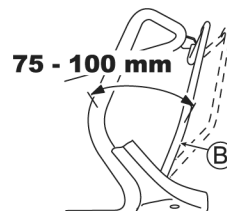

Fig. 25
Adjust so that the machine runs (the drive clutch gets engaged) when the distance between Drive clutch lever (B) and the handle is 75 - 100 mm as shown in Fig. 25.